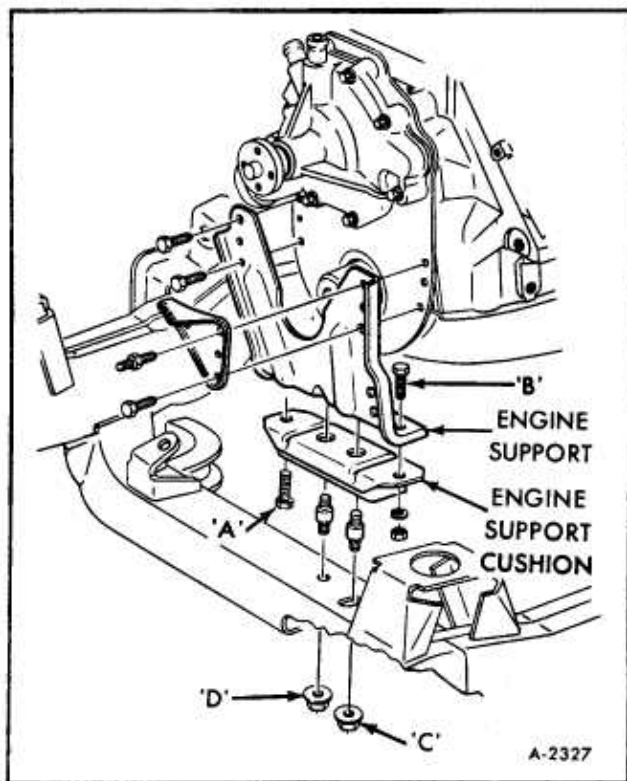

Figure 6—Front Engine Mounting
3. Remove bolts "A" and "B". Remove nuts "C" and "D" as shown in Figure 6.